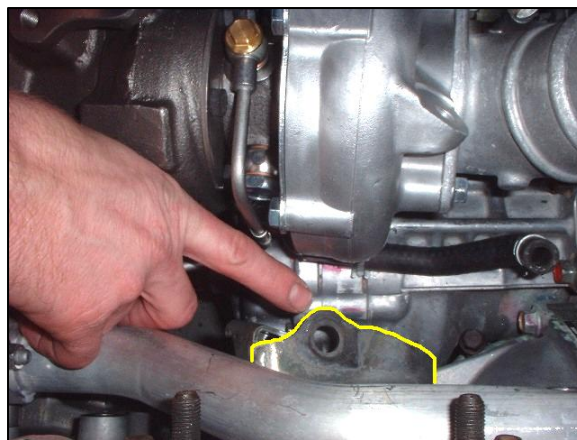

Fig. 36
38. Drop the Garrett turbocharger (together with oil and water lines installed) down into the engine bay. Rest the turbine housing carefully on the OE turbine housing support bracket, which is shown outlined in yellow in Fig. 36.